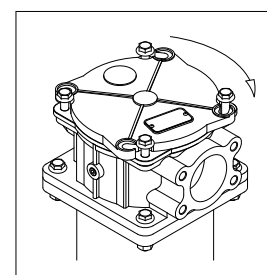

fig. 21
- (Fig. 21) Press and at the same time rotate the cover clockwise until the heads of the screws match the recesses